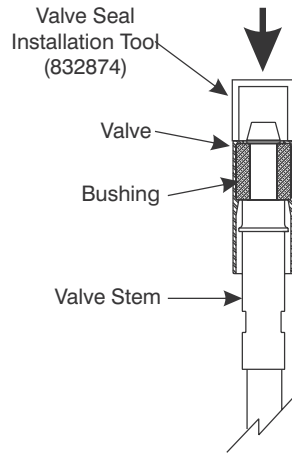

Figure 9-15. Press Valve onto Bushing and Valve Stem.
7. Refer to Figure 9-15. and press the Valve onto the assembled Bushing and Stem: